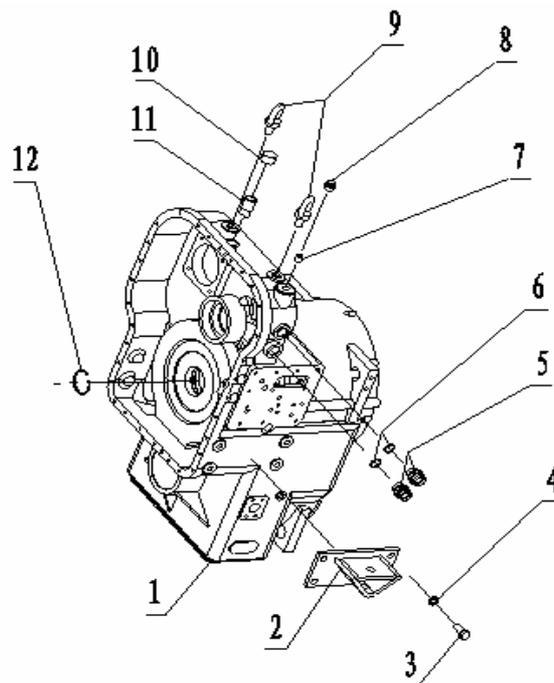

Figure 1
1. Transmission partial assembly (refer to Figure 1)